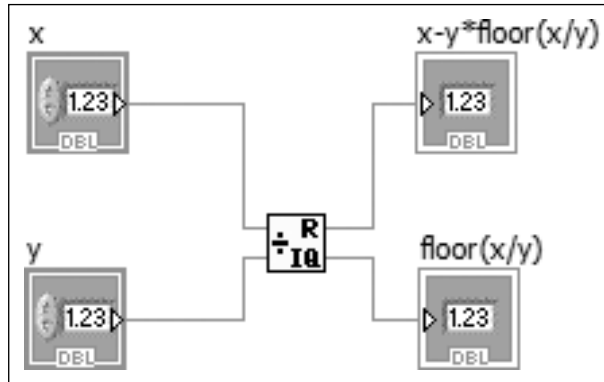

Figure 3.16
- labeled as shown in Figure 3.16